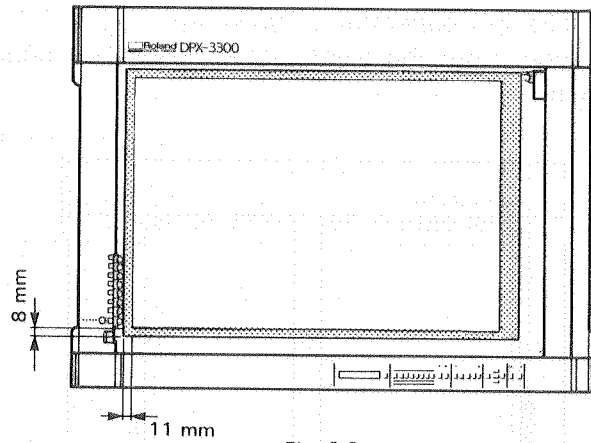

Fig. 2-8
- ① Make sure that the power connector is connected to the electrical outlet with the accessory power cord.
- ② Turn the "POWER" switch ON. The DPX-3300 comes in operation, and the pen carriage automatically moves to the upper right corner.
- ③ Make sure that the "PAPER HOLD" indicator LED of the control panel is OFF.
- ④ Set a plotter paper as shown in Fig. 2-8.